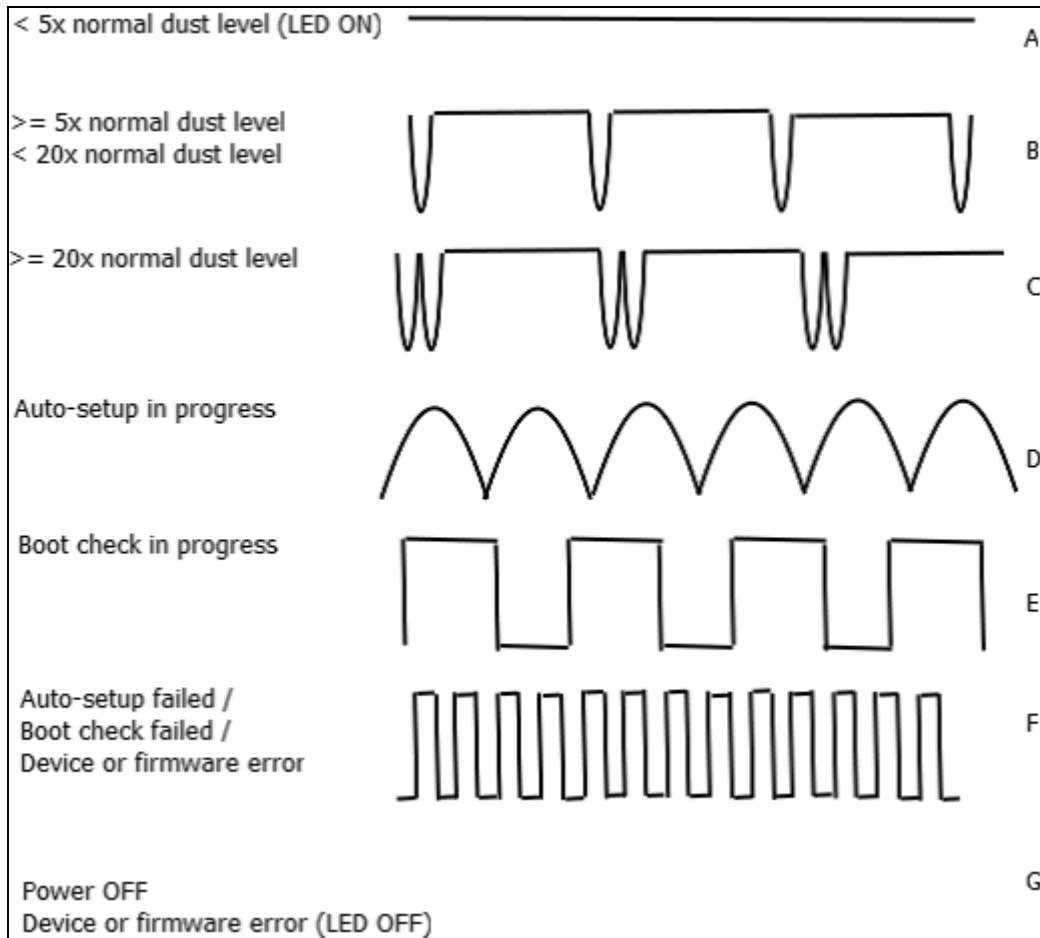

Figure 8 Description of Snifter A2 cover illumination sequences.
- 2.1 by connecting the automatic setup signal (green wire) to the V+ signal (wire) for a period of 1 second. The automatic setup will initiate and the front panel light will start to blink slowly (sequence D in Figure 8 Description of Snifter A2 cover illumination sequences.).